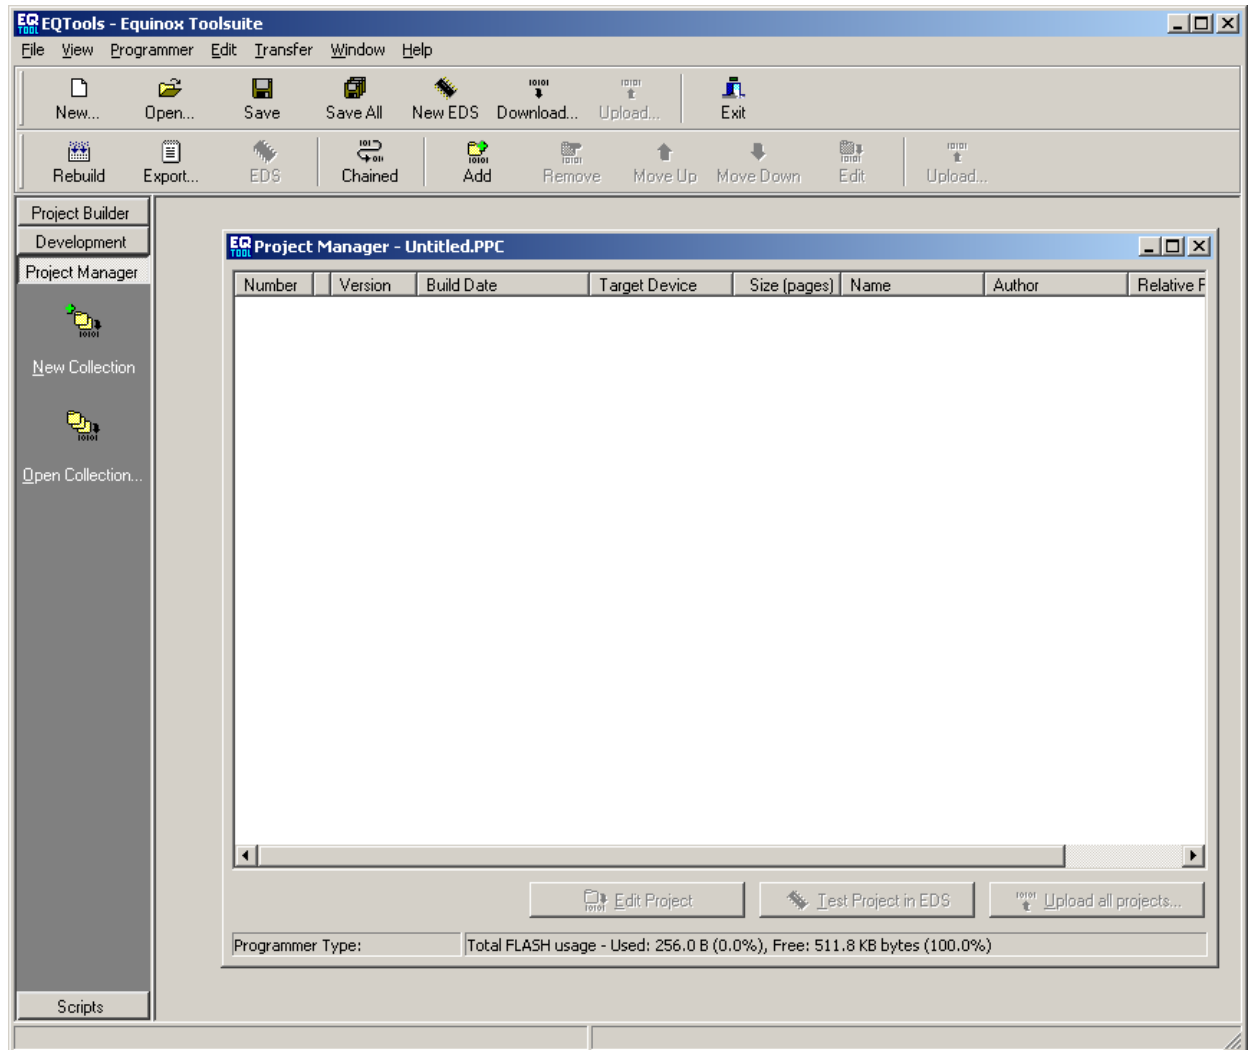

Figure 17 Project Manager window
3. Press the *New Collection* icon for generating a new collection. Then the Project Manager window will open, as depicted in Figure 17.